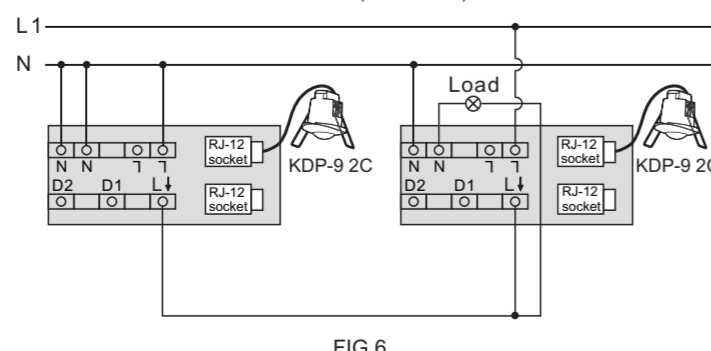

FIG.6
- Two KDP-9 2C control one load (See FIG.6).